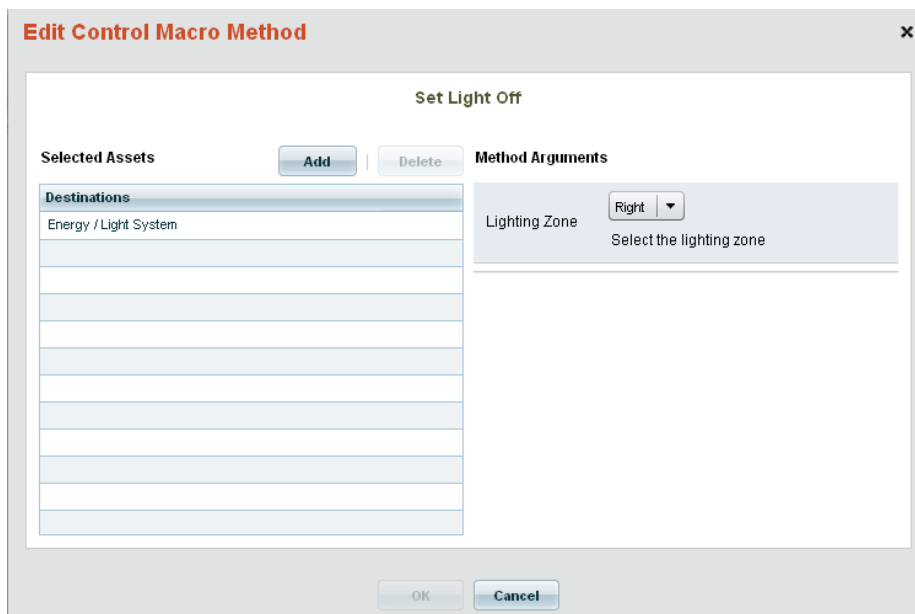

FIG. 290 Edit Control Macro Method dialog
3. Click **Edit** to access the *Edit Control Macro Method* dialog (FIG. 290):